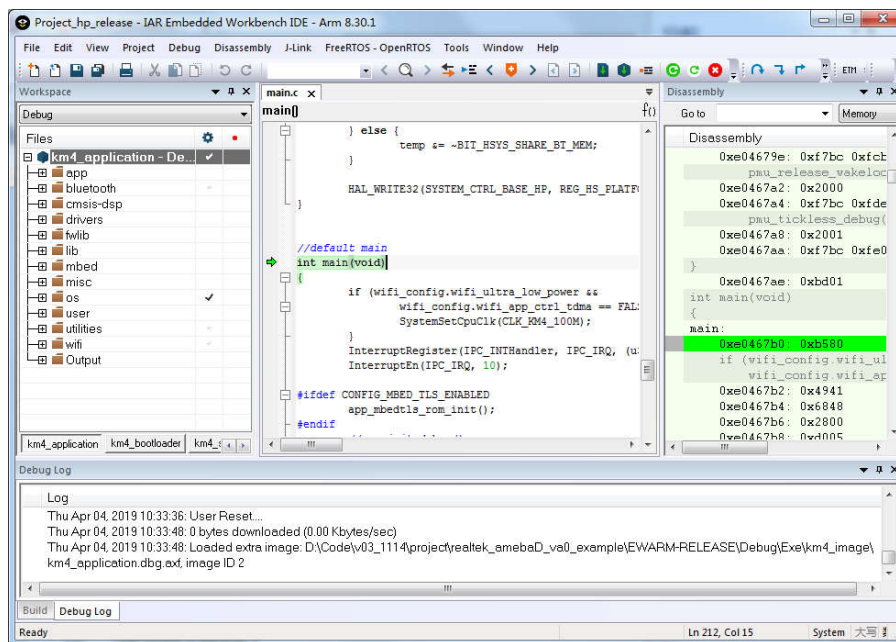

Fig 1-20 Running to main() when debug
- (1) Set the target project as active project and verify the debugger configurations as step (1) and (2).
- (2) Click **Project > Download and Debug** or **Project > Debug without Downloading**.
- (3) When starting IAR C-SPY to debug, it will firstly reset the target CPU and run to the main function, as Fig 1-20 shows.